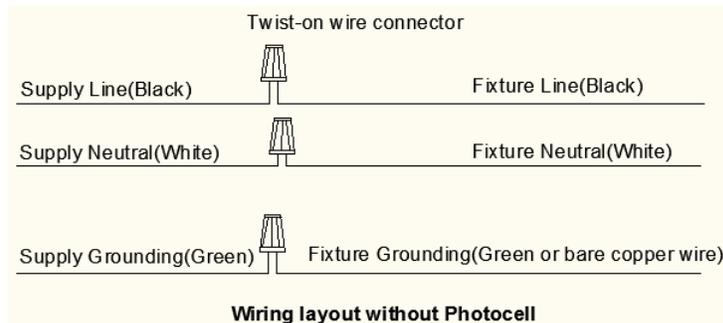

FIG: 2
- 2 **Wiring:** Connect the supply wires to the fixture wires using the following color codes (FIG: 2)
To install the fixture, mount it directly to a standard junction box and secure it using a 1/2 NPS threaded fitting. For the electrical configuration, refer to the wiring diagram in FIG.2 and connect the black wire to the supply line, the white wire to the neutral, and the yellow/green wire to the ground